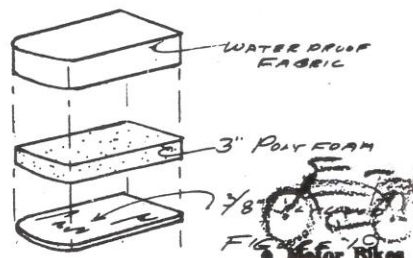

FIGURE 19
11. MAKE THE MOTOR MOUNT AS SHOWN IN FIGURE 19. DO NOT DRILL HOLES FOR ENGINE YET. WELD PEDALS AS SHOWN IN FIGURE 20. TWO ARE REQUIRED.